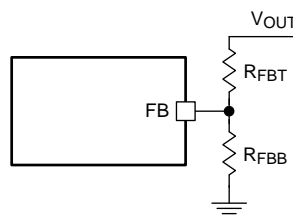

**Figure 13. SW Node and Inductor Current Waveforms in Continuous Conduction Mode (CCM)**
The following operating description of the LMR23630 will refer to the Functional Block Diagram and to the waveforms in Figure 13. LMR23630 is a step-down synchronous buck regulator with integrated high-side (HS) and low-side (LS) switches (synchronous rectifier). The LMR23630 supplies a regulated output voltage by turning on the HS and LS NMOS switches with controlled duty cycle. During high-side switch ON time, the SW pin voltage swings up to approximately  $V_{IN}$ , and the inductor current  $I_L$  increase with linear slope  $(V_{IN} - V_{OUT}) / L$ . When the HS switch is turned off by the control logic, the LS switch is turned on after an anti-shoot-through dead time. Inductor current discharges through the LS switch with a slope of  $-V_{OUT} / L$ . The control parameter of a buck converter is defined as Duty Cycle  $D = t_{ON} / T_{SW}$ , where  $t_{ON}$  is the high-side switch ON time and  $T_{SW}$  is the switching period. The regulator control loop maintains a constant output voltage by adjusting the duty cycle  $D$ . In an ideal buck converter, where losses are ignored,  $D$  is proportional to the output voltage and inversely proportional to the input voltage:  $D = V_{OUT} / V_{IN}$ .